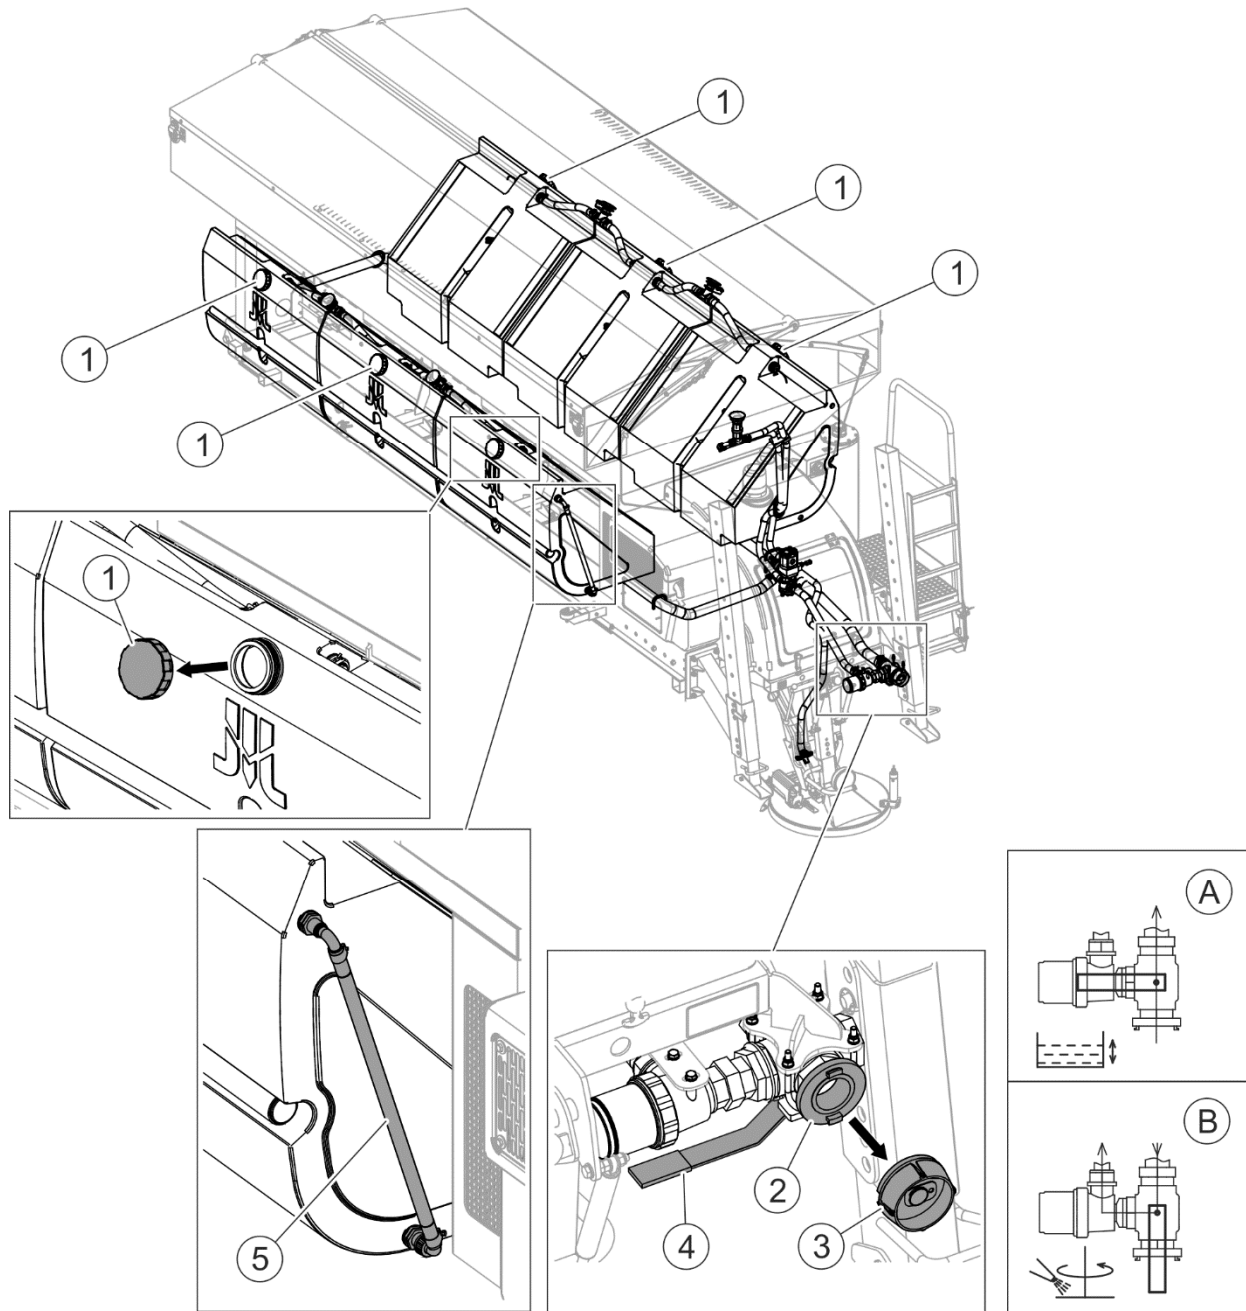

FIGURE 4.15 Filling the tank with brine
The tanks can be filled with brine (FIGURE 4.15) through tank openings secured with plugs (1) or through STORZ 52C connection (2) secured with a plug (3).
In order to fill the tanks with brine (FIGURE 4.15) through connection (2):
- set valve lever (4) in position (B),
- unscrew plug (3) and connect filling hose to connection (2),
- set valve lever (4) in position (A) and start filling,
- brine level is checked on brine level indicator (5) located on the tank,
- when filling is completed, set lever (4) to position (B),
- disconnect filling hose and tighten plug (3).